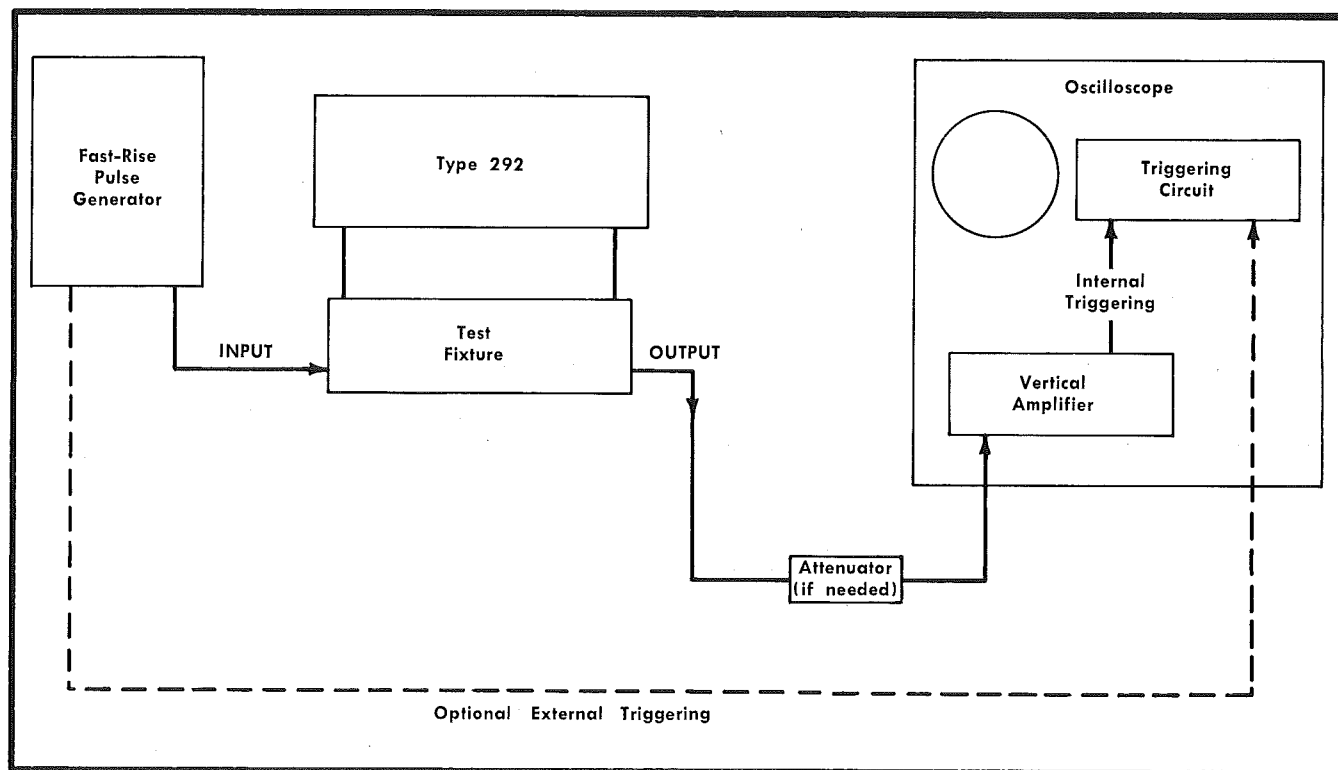

Fig. 2-32. Basic test system.
Vertical display voltage is obtained by diode current passing through the oscilloscope 50-ohm input impedance, thus providing 1 millivolt for each 20 microamps of diode current. The display voltage generated by the diode current can be reduced by connecting an attenuator between the test fixture and the oscilloscope, as shown in Fig. 2-32. However, with an attenuator between the test fixture and the oscilloscope, the current sensitivity is reduced by the attenuation factor. For example, if a 10X attenuator is used, each millivolt displayed equals 200 microamps of diode current.
1. With the test equipment connected as shown in Fig. 2-32, short across the test fixture by inserting a piece of $1/16$ " wide copper strap as you would a diode.
1. With the test equipment connected as shown in Fig. 2-32, short across the test fixture by inserting a piece of $1/16$ " copper strap as you would a diode.
1. Connect the test equipment as shown in Fig. 2-32 (the pulse generator is not needed for this procedure, but is necessary when measuring diode switching characteristics), and set the Type 292 bias current VARIABLE control to CALIB and the left BIAS CURRENT mAMPS control to 10.